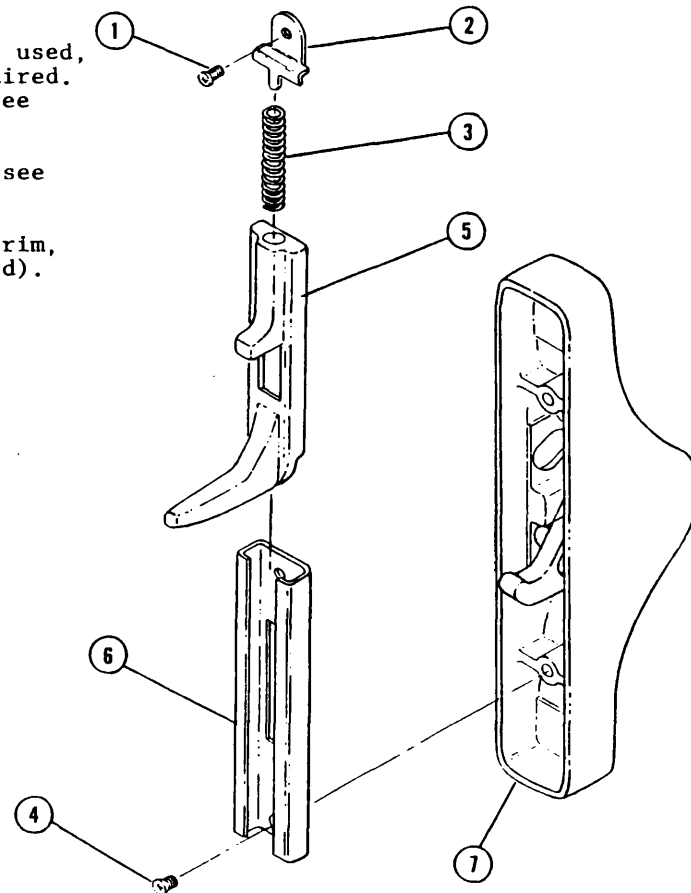

Fig. 1
2. Replace lift finger on 5534 device, see Fig.1.
- A. Remove #8-32 x 5/16 P.P.H.M.S. (1), Spring Anchor (2) and Spring (3).
- B. Remove #8-32 x 1/4 undercut F.P.H.M.S. (4).
- C. Slide old Lift Member (5) from Lift Member Channel (6).
- D. Slide new 5575-F Lift Member into Lift Member Channel (6).
- E. Place this assembly into Center Case Housing (7) and install #8-32 x 1/4 undercut F.P.H.M.S. (4).
- F. Install Spring (3), Spring Anchor (2) and #8-32 x 5/16 P.P.H.M.S. (1).